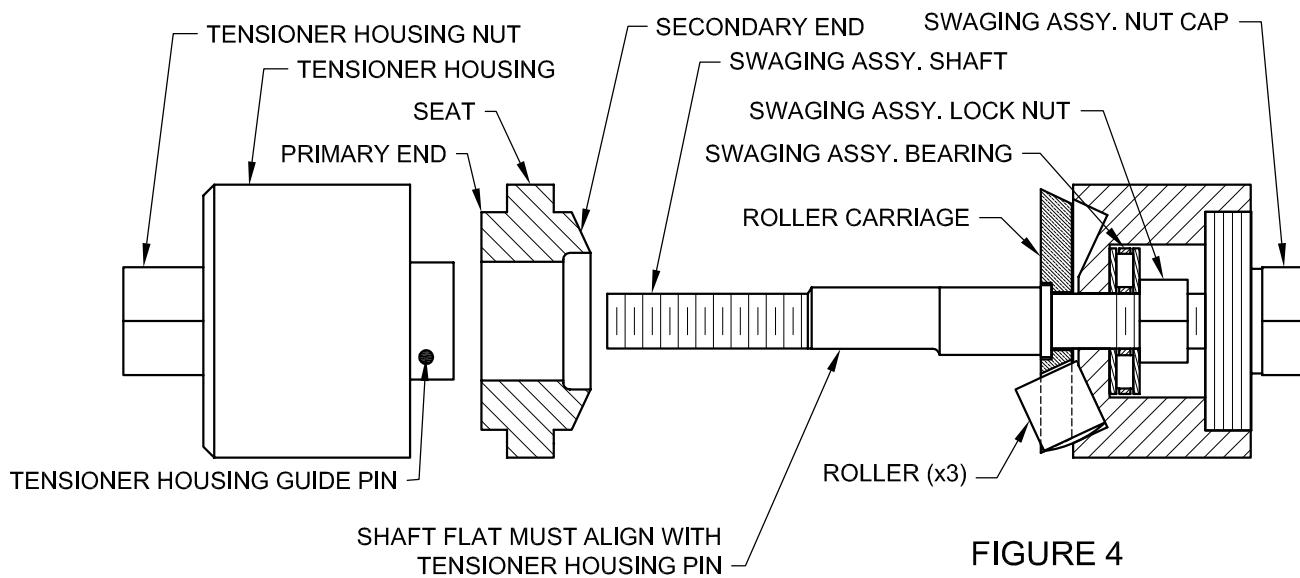

FIGURE 4
1. Select the proper Portable Bearing Swaging Tool. Check the tools condition, if damaged or severely worn replace tool. Check Swaging Tool's bronze Roller Carriage and Rollers, Carriage must be slightly loose and Rollers turning freely. Adjustments can be made by the lock nut inside the Swaging Assembly per figure 4.
3. Separate the Portable Bearing Swaging Tool's three main parts, the Tensioner Assembly, Seat, and the Swaging Assembly per figure 4. Place the Seat into the Tensioner Assembly housing with the Primary side facing out.